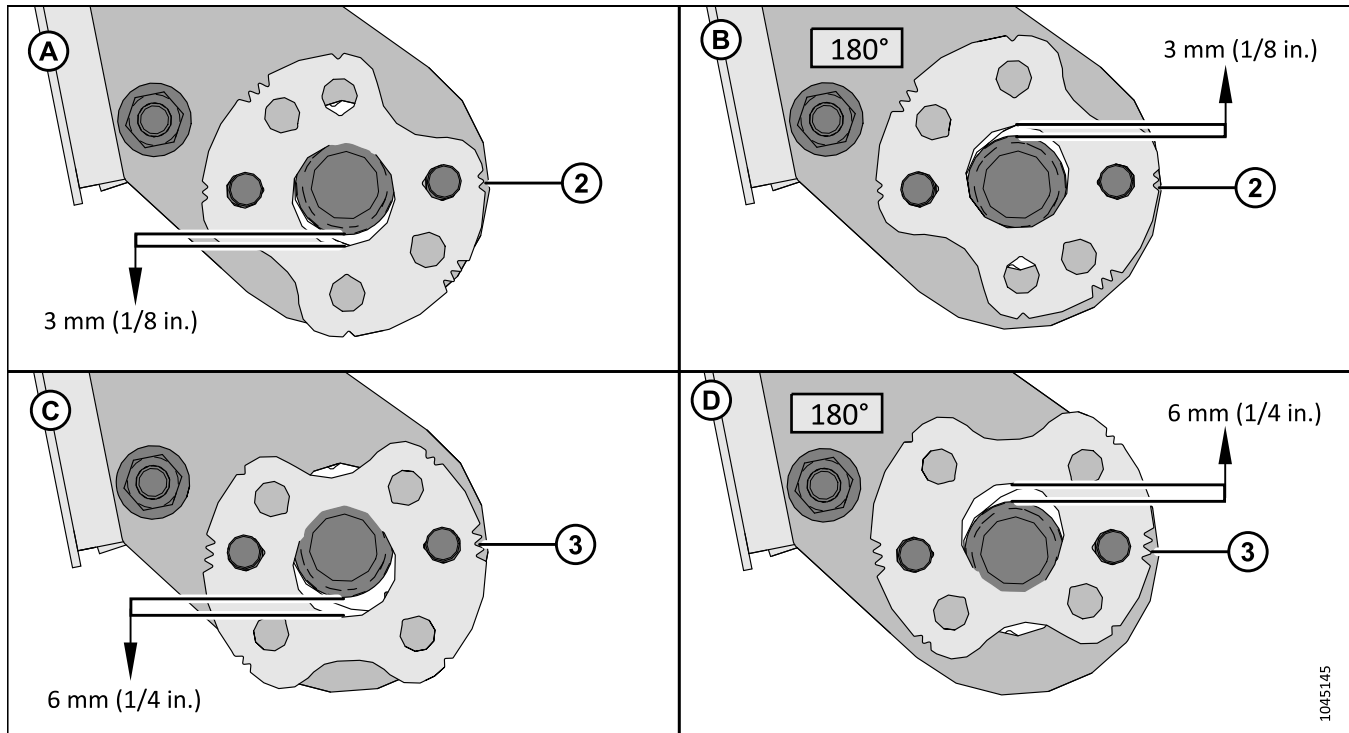

Figure 4.6: AF11 Adjuster Plate Positions
9. **AF11 combines:** If an adjustment is needed, note the position of locking pins compared to the center hole of the adjuster plates, remove nuts (C) and reposition adjuster plates (A) as needed. Refer to Figure 4.6, page .